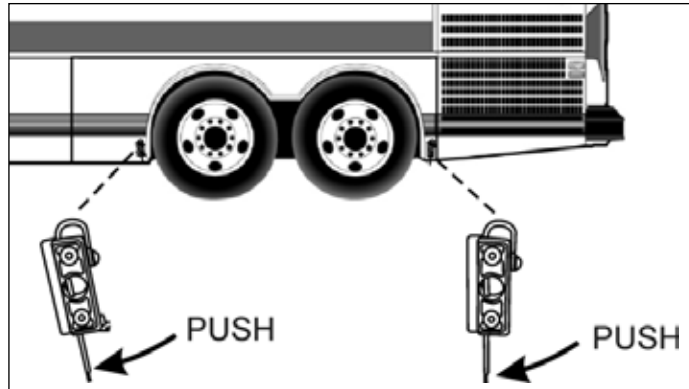

Figure 1
- 1) Release the rear road side (left) fender (Fig 1) by pushing the spring rods.